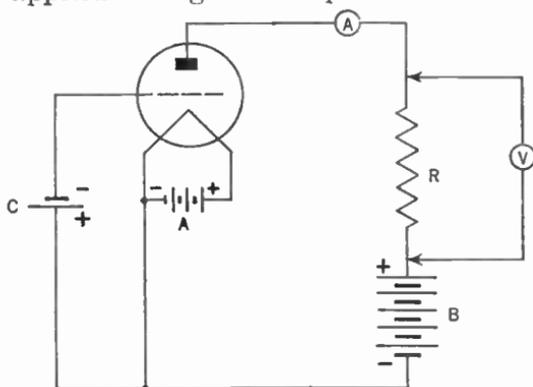

Figure 402. Circuit for obtaining the dynamic characteristic curves of a triode.
*dynamic characteristic curves.* Figure 402 shows how we obtain these curves.